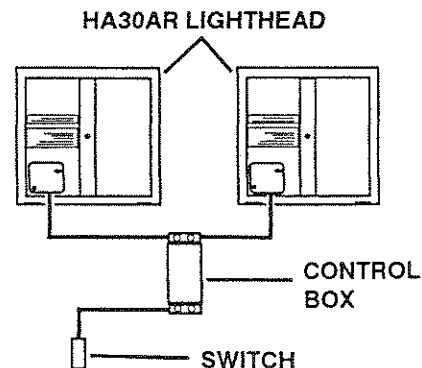

Figure 2. Multiple Lighthead Wiring
- Up to four (4) lightheads can be operated by a single control box.
5. If installation requires more than one lighthead, connect color coded wires from each lighthead to appropriate colored wires of control box (maximum 4 lightheads per control box). See figure 2.